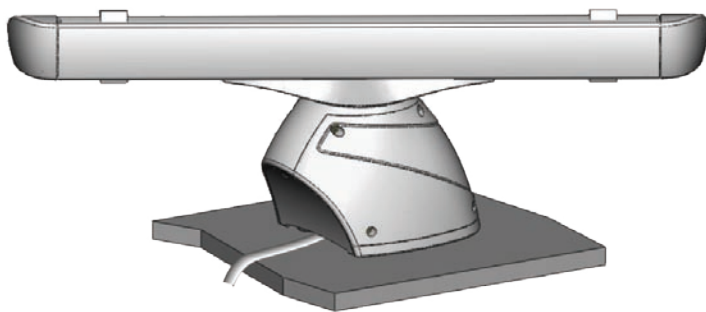

Figure 9
2. The power/network cable can be routed through the front of the scanner (Figure 9), or through a hole drilled through the mounting surface (Figure 10). Avoid excessive bending or twisting of the cable.